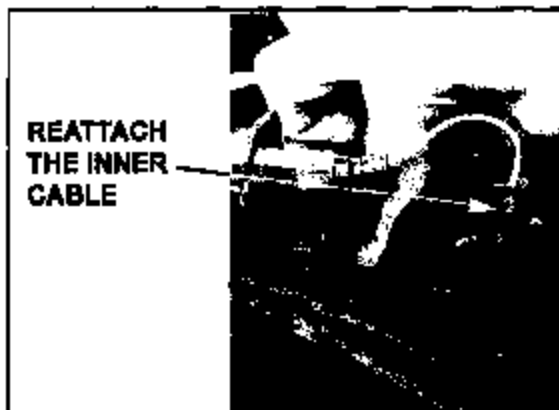

Figure 6
7. Reattach the inner cable to the throttle body cam (see figure 6).